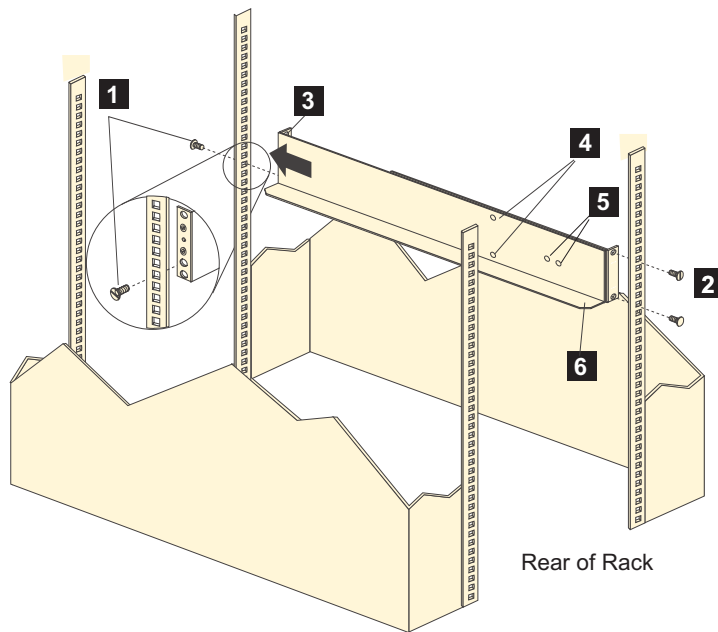

Figure 13. Installing the support rails
**Note:** Refer to Figure 13 on page 32 while performing these steps.
**Note:** The support rails are not marked as left or right. However, each rail can be correctly mounted on only one side of the rack cabinet. The rails should be mounted with the alignment pins at the back of the rack. Figure 13 on page 32 shows the installation of the left support rail.
2. Using a #2 Phillips screwdriver, remove the four screws from the rails (two screws in each rail). See **4** in Figure 13 on page 32. If you do not remove these screws, the storage subsystem will not fit securely.